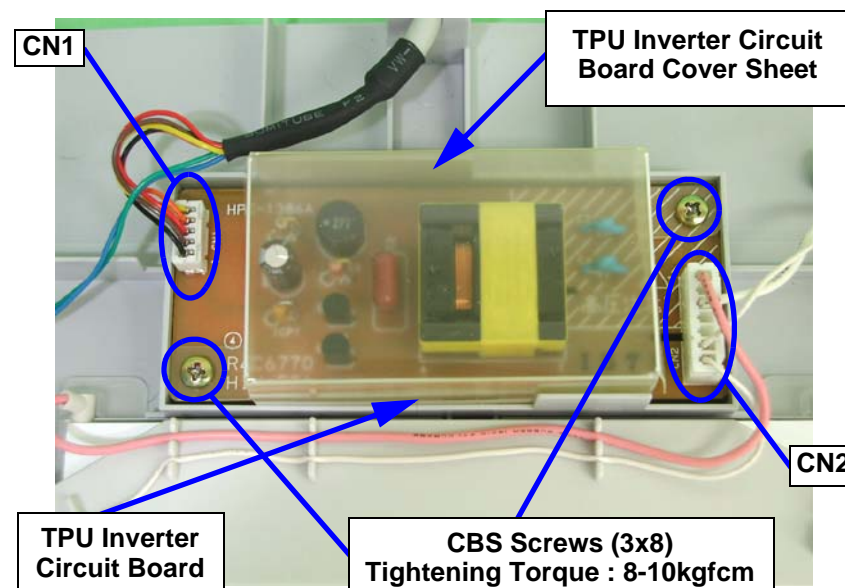

Figure 4-41. TPU Inverter Circuit Board Removal
2. Remove the two screws (CBP, M3x8) and disconnect the connectors (CN1 and CN2), and then remove the TPU inverter circuit board unit. (See Figure 4-41)